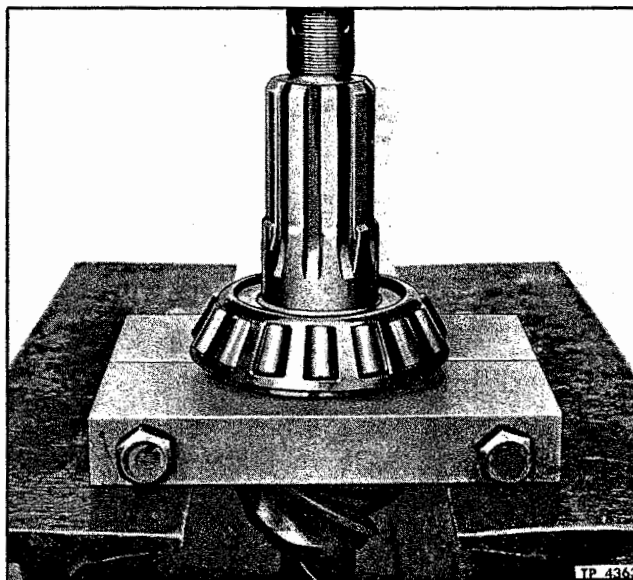

Figure 5—Pinion Bearing Removal
1. Remove nuts (19) and lock washers (18) which secure pinion cage (27) on differential carrier (16).
2. Install two puller screws (1/2" - 13 x 2-1/2") and tighten alternately and evenly to pull cage (27) out of carrier; then noting quantity, remove shim pack (17) from pinion cage studs (20). Tie shims (17) together so same shim pack may be used at reassembly.
3. Remove retainer ring (35) which secures inner bearing (34) on drive pinion (33) then remove inner bearing from drive pinion with a suitable puller.
4. Clamp pinion in vise equipped with soft jaw plates. Remove cotter pin, nut (24), and washer (23) from drive pinion (33).
5. Place cage and drive pinion assembly in an arbor press and press drive pinion (33) out of flange (25) and pinion cage. Outer bearing (28) will remain in pinion cage.
6. Remove bearing adjusting spacer (30) from drive pinion (33). With bearing puller remove inner bearing (32) from drive pinion (33) (fig. 5).
7. Remove oil seal (26) assembly and oil seal spacer (21) from pinion cage. If bearing cups (29 and 31) are to be removed from cage (27) use brass drift or bearing cup puller.